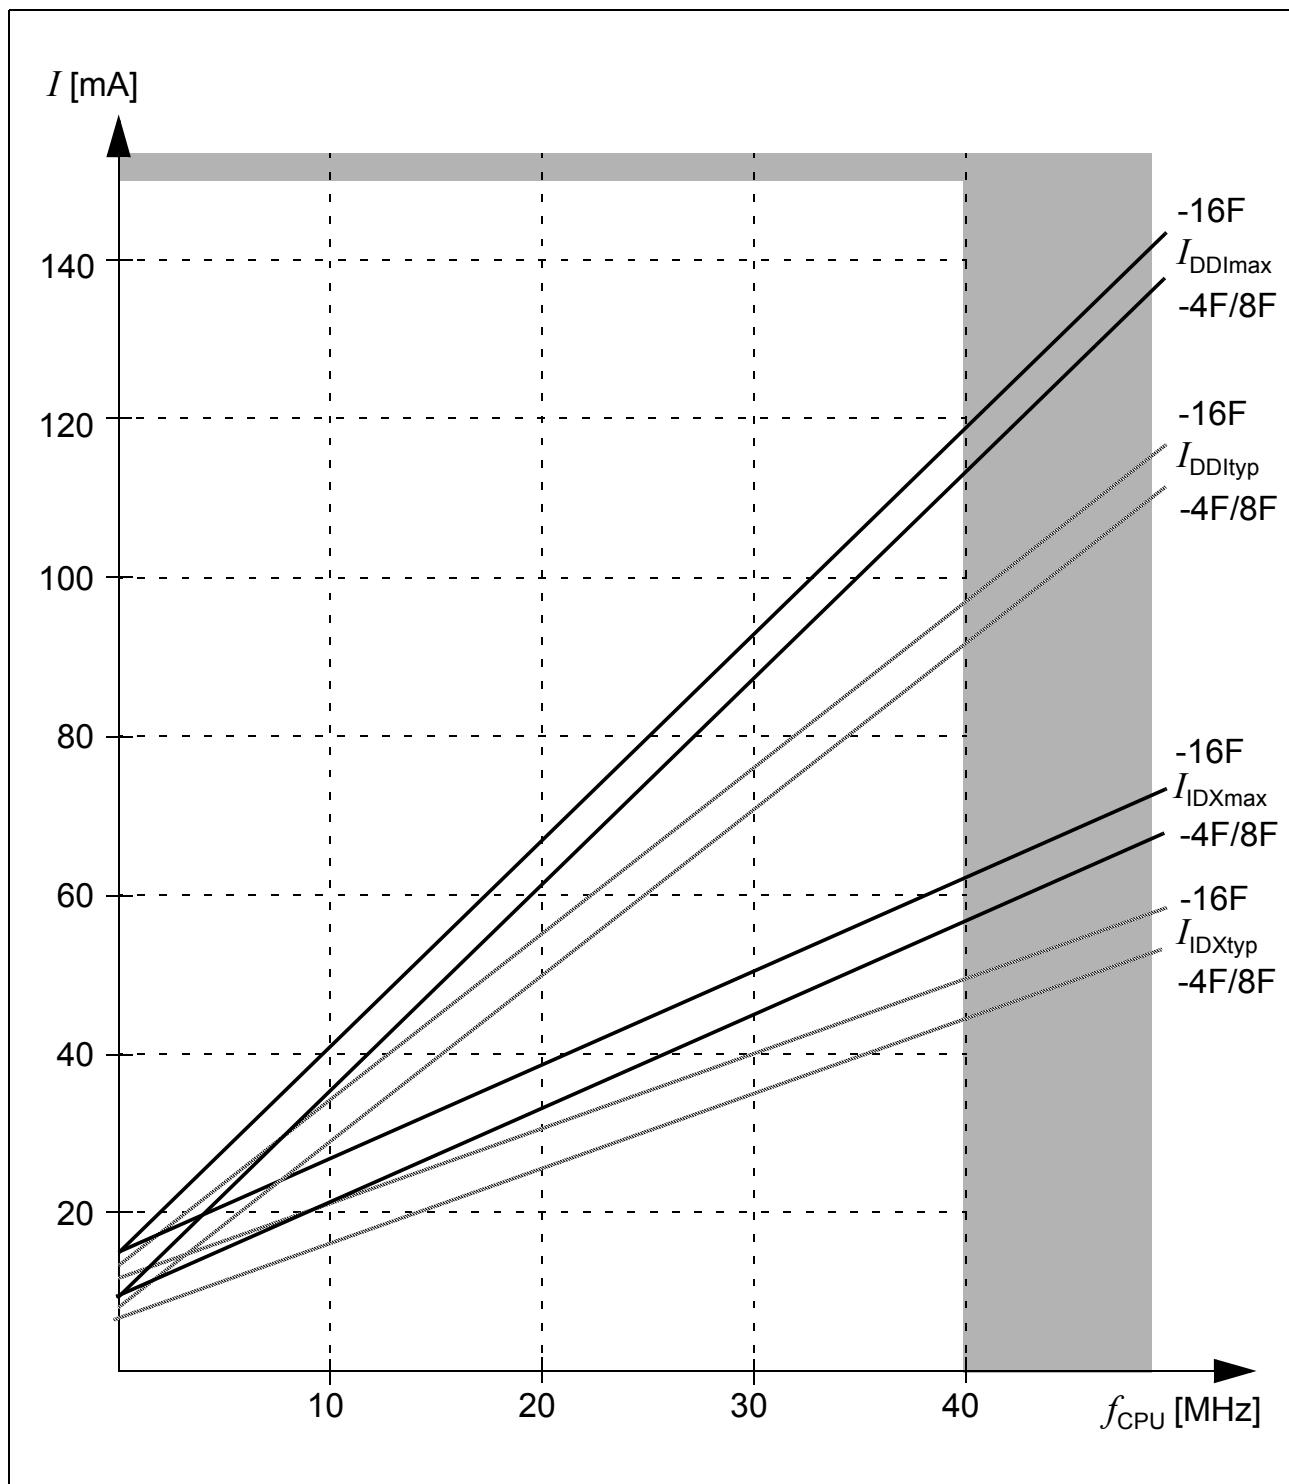

Figure 9 Supply/Idle Current as a Function of Operating Frequency
- 2) The supply current is a function of the operating frequency. This dependency is illustrated in Figure 9. These parameters are tested at $V_{DDI\max}$ and maximum CPU clock frequency with all outputs disconnected and all inputs at V_{IL} or V_{IH} .